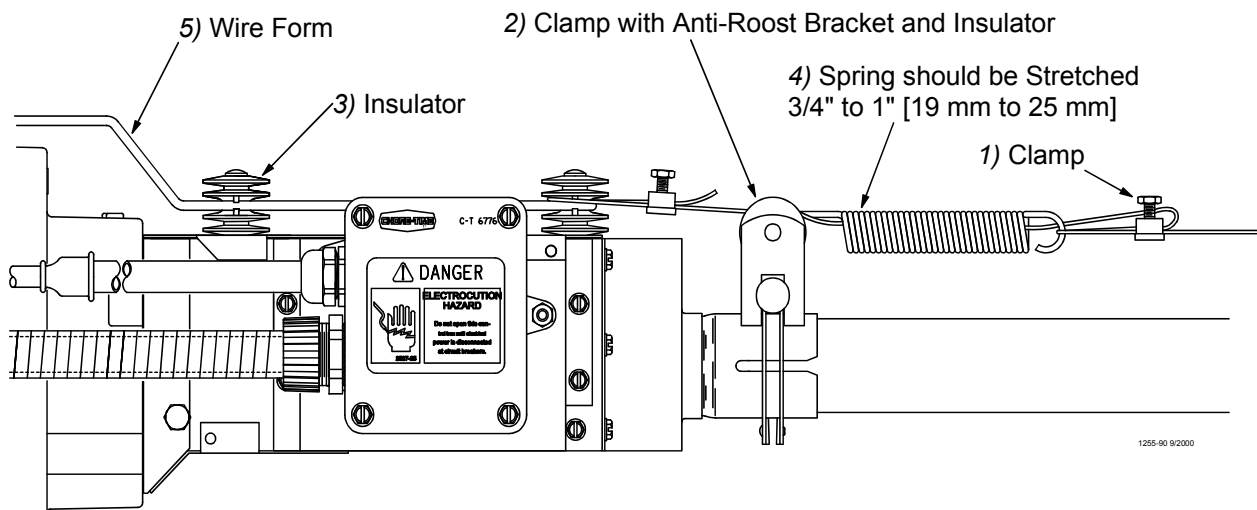

Figure 64 Anti-Roost Installation at the Control Unit
9. At the control unit, after clamping the cable to the spring, cut the cable about 8" to 10" [200 to 250 mm] longer than necessary. Feed the end of the cable through the center of the spring, around the first insulator on the control unit, and clamp the cable using the cable clamp supplied with the control unit. See **Figure 64**.
10. Install the wire form on the control unit insulators. Be sure the guard snaps into the retainers molded into the insulators. See **Figure 64**.